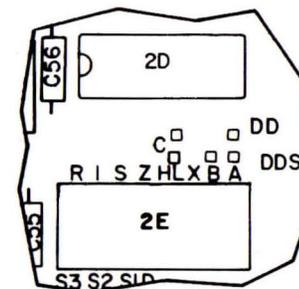

FIGURE 3-9. DRIVE SELECT OPTION
4. Jumper plug C terminal posts located between DIPs at 2D and 2E. See Figure 3-9.